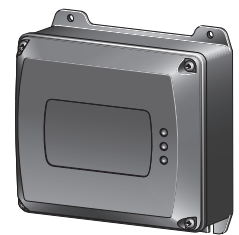

Fig. 19
- Press and hold down both the UP and DOWN buttons on the board (fig. 19) to power the RTC R1 electronic board until the POWER LED (green) flashes rapidly (fig. 19 ref. A). Then release both buttons.
- Pressing the DOWN button opens the thruster until the limit switch is activated and the STATUS LED turns green (fig. 19 ref. B).
- Make sure that the thermal cut-out has not tripped (the ERROR LED must be off - see point 4.7 fig. 19/Ref. C).